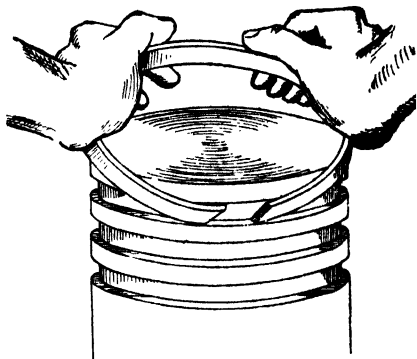

Fig. 21. Putting Piston Ring on Piston End
**Replacing the Rings.** When all the rings have been filed in this way, the next step is to place them in their respective grooves, making them occupy their proper position when in use. In Fig. 21 is shown a method for doing this. Ring No. 4 should first be placed in position.